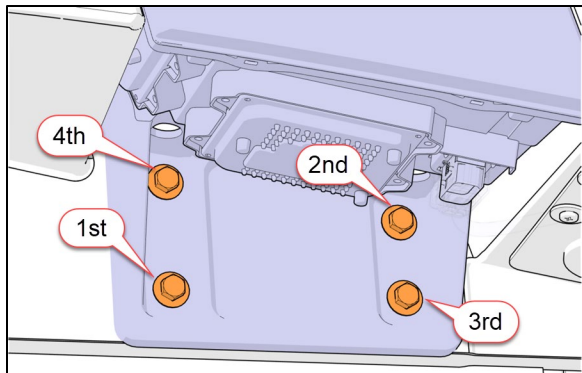

FIGURE 99
10. Apply final torque to the four (4) bolts in accordance with the tightening sequence (Figure 99).